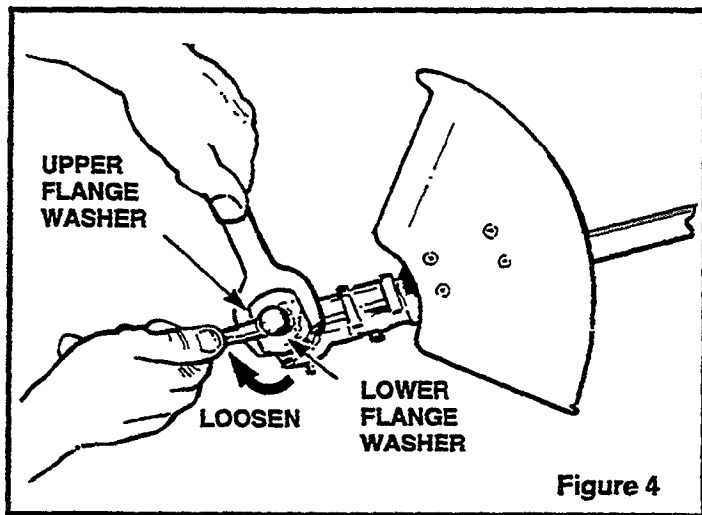

Figure 4
- Using the tools shown in **Figure 4**, remove the bolt (left hand thread), star washer, and flat washer at the bottom of the gearcase.